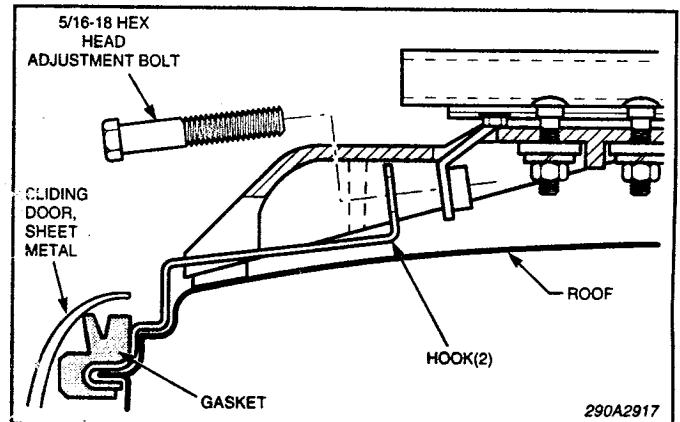

Figure 1.
2. See figure 1. Determine where the hook will attach to the vehicle.
3. Slide the door gutter gasket off the roof sheet metal just enough to place the hook in position. Place the hook in position on the roof sheet metal as shown in figure 1.